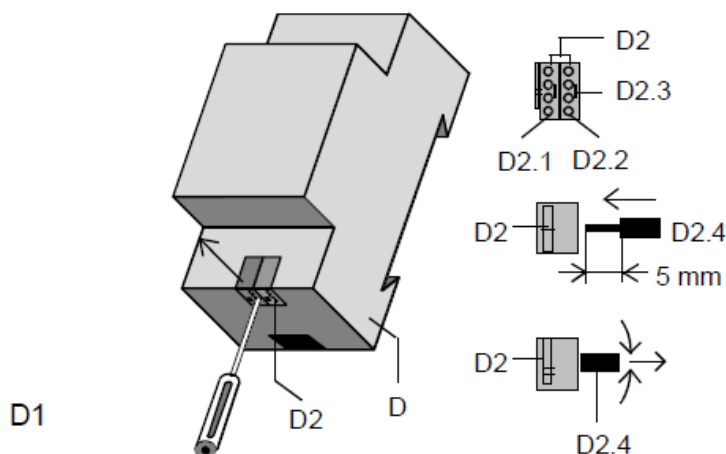

Figure 3: Connecting and disconnecting the bus wires
#### 5.4. Slipping off bus connection blocks (Figure 3)
- The bus connection block (Figure 3, D2) is situated on the top of the device (Figure 3, D1).
- The bus connection block (Figure 3, D2) consists of two components (Figure 3, D2.1 and D2.2) with four terminal contacts each. Take care not to damage the two test sockets (Figure 3, D2.3) by accidentally connecting them to the bus cable or with the screw-driver (e.g. when attempting to unplug the bus connection block).
- Carefully put the screw-driver to the wire-inserting slit of the bus connection block's grey component and pull the bus connection block (Figure 3, D2) from the device (Figure 3, D1).
#### 5.5. Slipping on bus connection blocks (Figure 3)
- Slip the bus connection block onto the guide slot and press the bus connection block (Figure 3, D2) down to the stop.
#### 5.6. Connecting bus cables (Figure 3)
- The bus connection block (Figure 3, D2) can be used with single core conductors  $\varnothing 0,6 \dots 0,8$  mm.
- Remove approx. 5 mm of insulation from the conductor (Figure 3, D2.4) and plug it into the bus connection block (Figure 3, D2) (red = +, black = -).
#### 5.7. Disconnecting bus cables (Figure 3)
- Unplug the bus connection block (Figure 3, D2) and remove the bus cable conductor (Figure 3, D2.4) while simultaneously wiggling it.